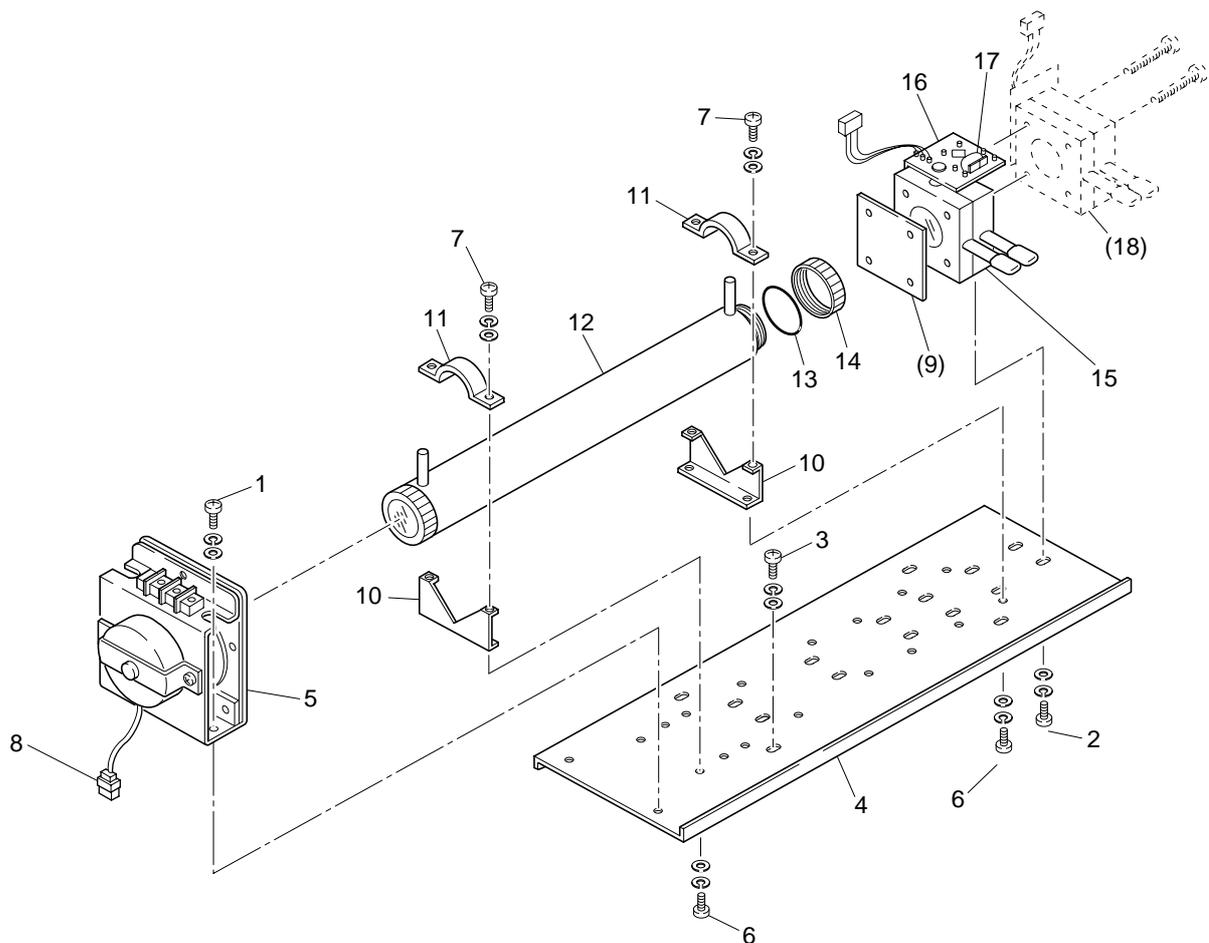

Fig. 5-1 Composition of measurement unit (pipe cell)
There may be a case where both cells of the two-component analyzer may be included in the optical system. In this case, remove the pipe cell, and then the block cell. (See Fig. 5-1.)
#### (1) Cleaning the pipe cell (See Fig. 5-1.)
- 4) Loosen the screw (No.1 in Fig. 5-1) that fastens the infrared ray light source unit (No.5 in Fig. 5-1) to create a gap between the unit and the pipe cell (No.12 in Fig. 5-1).
- 5) Remove the screw (No.7 in Fig. 5-1) of the cell presser (No.11 in Fig. 5-1) fastening the pipe cell.
- 6) Remove the cell, and then remove the windows on both sides (No.14 in Fig. 5-1). The screw of the window is right-handed.